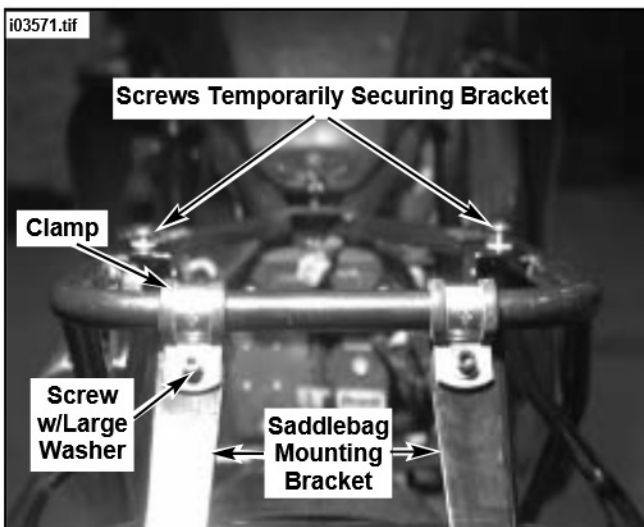

**Figure 2. Place Lower Mounting Bracket Rails onto Footpeg studs (Right Side Shown)**
7. See Figure 2. Following instructions in applicable Service Manual, remove the left and right passenger footpeg assemblies, however leave mounting screws (studs) in place within the frame mounts. Save footpegs for re-installation.
- b. See Figure 2. Place the left and right lower rails of the mounting bracket over the respective left and right footpeg studs.